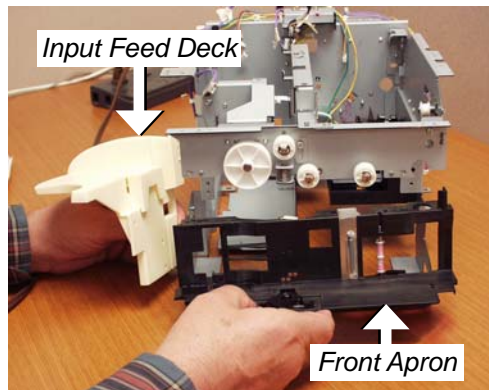

Figure 5-70 Removing Input Feed Deck and Front Apron
4. Remove input feed deck (three screws). See Figure 5-70.
5. Carefully remove the black plastic apron (four screws). See Figure 5-70.